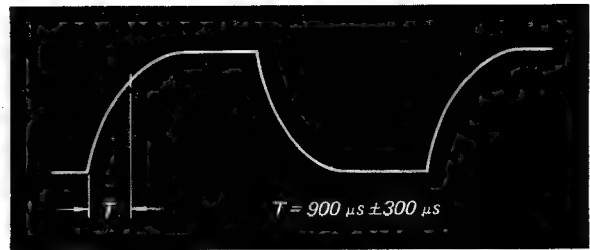

Fig. 7-6.
2. Confirm that the gate pulse interval is 900 μsec ± 300 μsec . See Fig. 7-6.